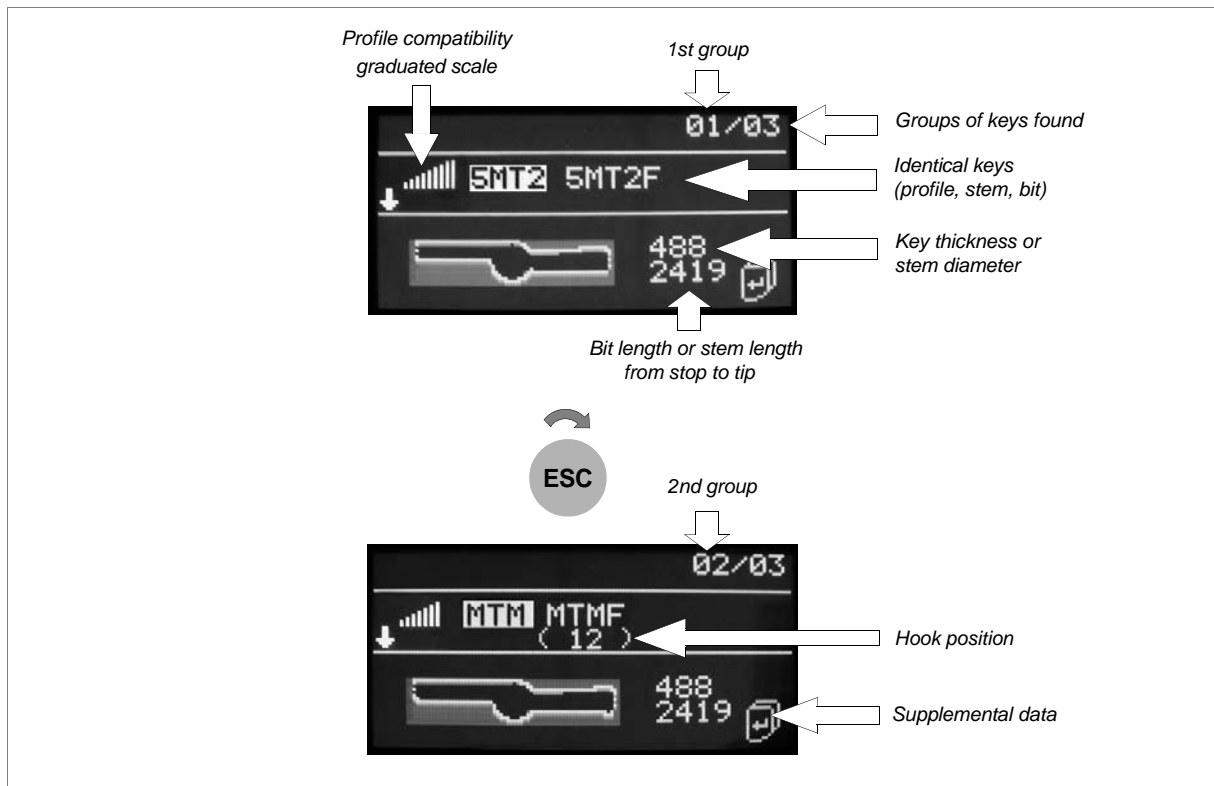

Fig. 27
- Identical keys (same profile and stem length or bit length) will be shown on the same line, separated by a space (fig. 27).
- 01/03 = first group of 3 found (fig. 27)